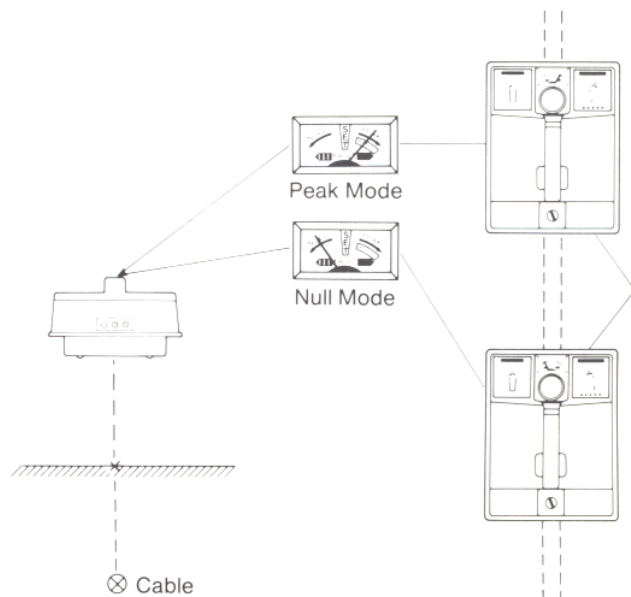

Fig. 23 — Signal Indications PEAK and NULL Modes
- (a) NULL (Fig. 23): In this mode, tone picked up by the receiving coil cancels when it is directly over the cable. The meter needle deflects to the "Null" area and the speaker falls silent. As the receiver moves past the cable midpoint, the audio tone increases and the needle will return to the right. NULL gives a more precise center point than PEAK, but is more apt to be misled by foreign conductors in the area. Swing the receiver across the suspected cable path with a sweeping motion. In NULL, the point of minimum needle deflection and tone is the cable path.
(b) **PEAK** (Fig. 23): In this mode, tone increases to a maximum as the cable is passed, and then diminishes as the receiver moves further off the cable path. The meter needle will deflect to the "Peak" zone and then return as the midpoint is passed. "Peak" is less sensitive than "Null" but allows speed in uncomplicated locates and it is more reliable when tracing changes in cable direction as tone falls off rapidly if the handle is not in line with the cable path. In such a case, a sharp turn or bend in the path is indicated.